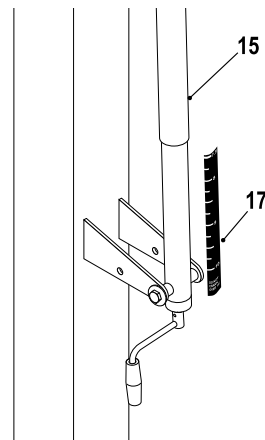

Figure 12
19. Adjust unit to 7-1/2 feet. Use a tape measure to measure from the top of the rim to the playing surface. Stick Height Decal (#17) to back of Actuator (#16) with the "7.5" mark aligned with bottom of Actuator Sleeve (#15). See Figure 12.